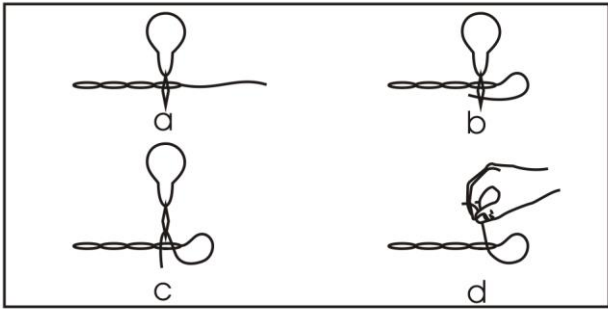

Fig. 7
- Turn to back side of the cloth and guide the reserved 3 inches of thread according to the following directions and corresponding drawings: Fig. 7